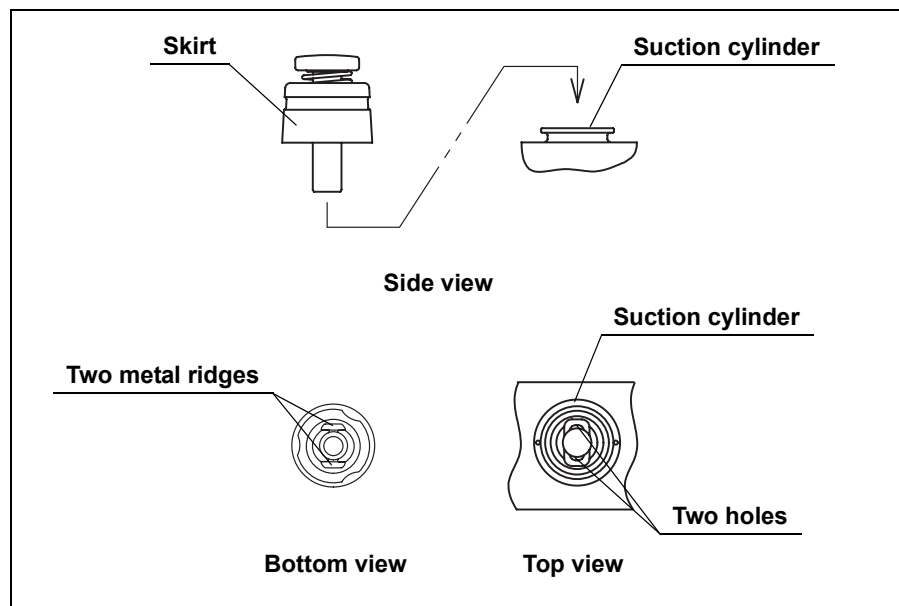

Figure 3.15
- Attach the suction valve to the suction cylinder of the endoscope (see Figure 3.15). Confirm that the valve fits properly without any bulging of the skirt. Also confirm that the valve cannot be rotated.